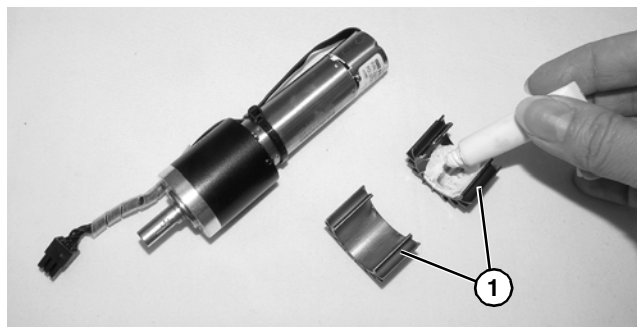

Figure 80
12. Add heat sink compound to heat sinks (**Figure 80, item 1**) before reinstalling to motor.